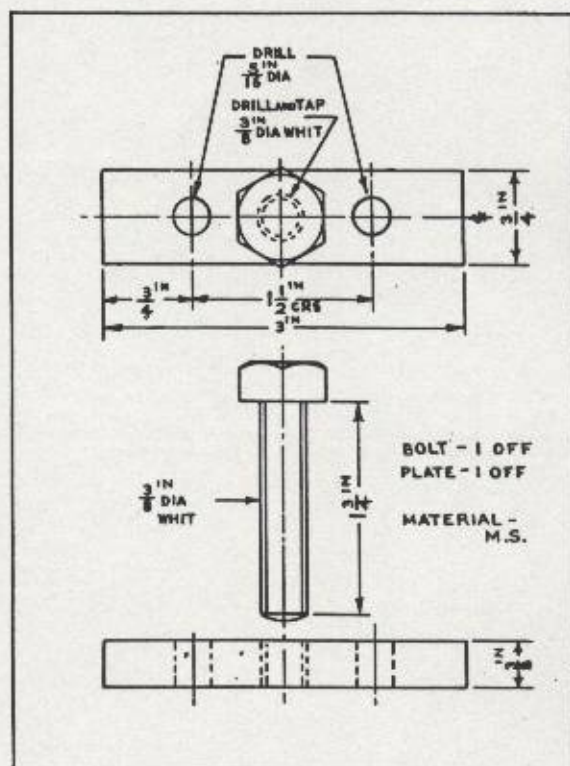

FIG. 12 - COOLANT PUMP - TOOL,
- (c) Remove the pump rotor. This is a press fit on the shaft and will be removed by means of a tool manufactured locally, see Fig. 12.